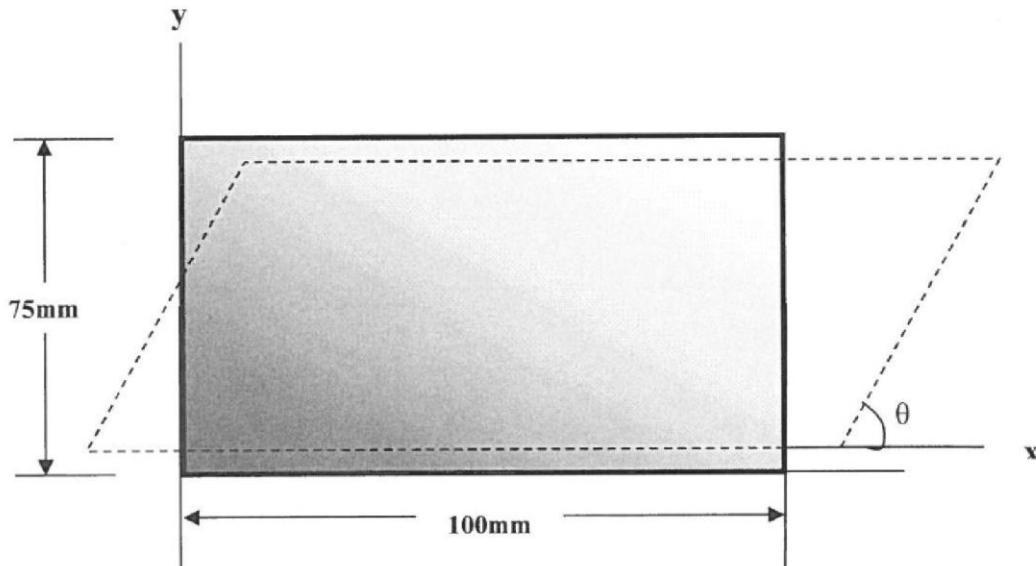

Figure 2: Deformed rubber block
- (a) An engineer in charge of the design of a structural member or mechanical element must restrict the stress in the material to a level that is safe. In your own words, deliberate five (5) reasons why Factor of Safety (F.S.) is introduced. (10 marks)
- (c) The rubber block is subjected to an elongation of 0.75mm along the x-axis, and its vertical faces are given a tilt so that  $\theta = 89.3^\circ$  as shown in Figure 2 below. Determine the strains  $\epsilon_x$ ,  $\epsilon_y$  and  $\gamma_{xy}$ . Take  $\nu_r = 0.5$ . (10 marks)